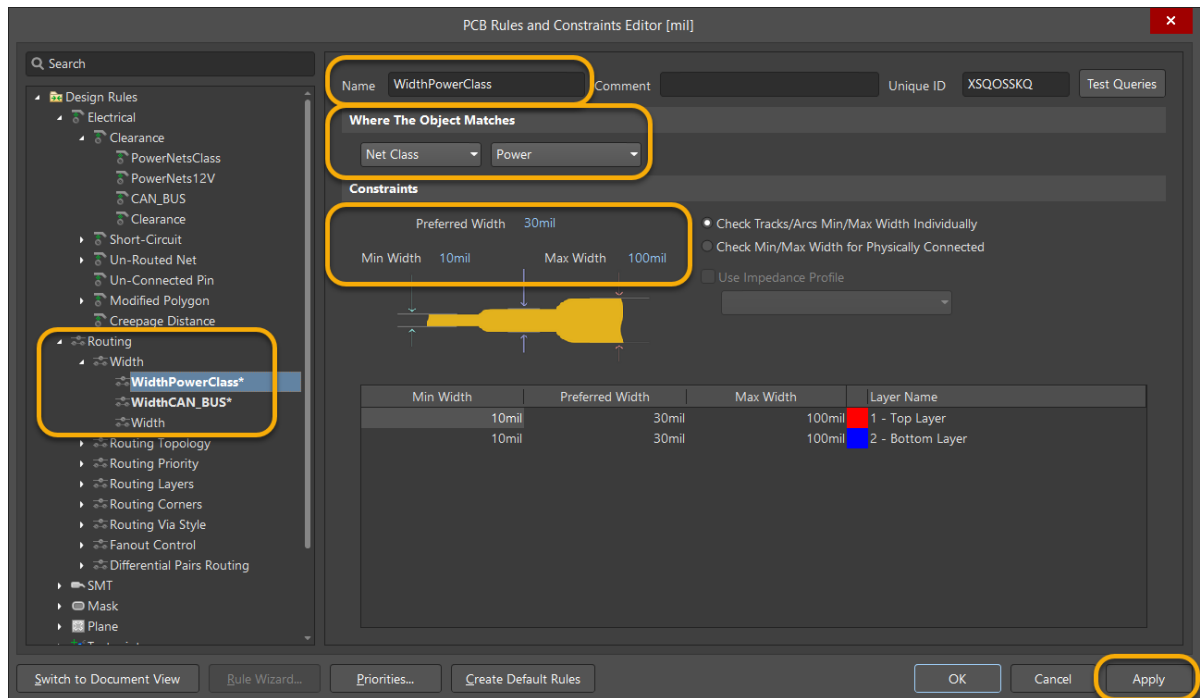

Figure 7. PowerNets Width Rule definition
27. Rename the rules, based on the Nets / Classes the rules target, Figure 7.